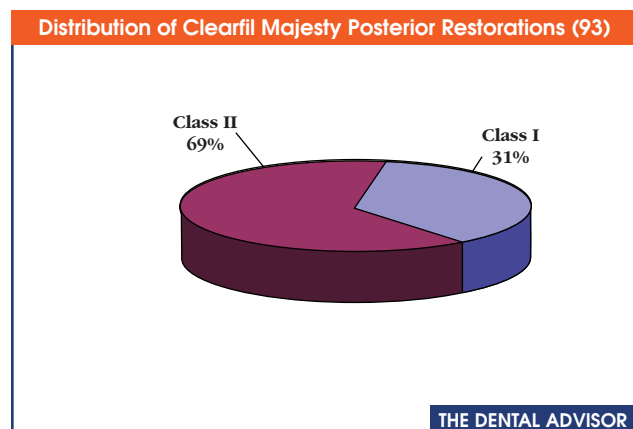

Figure 1
- 93 restorations were available for evaluation of clinical performance up to 20 months after placement (Figures 1 and 2).